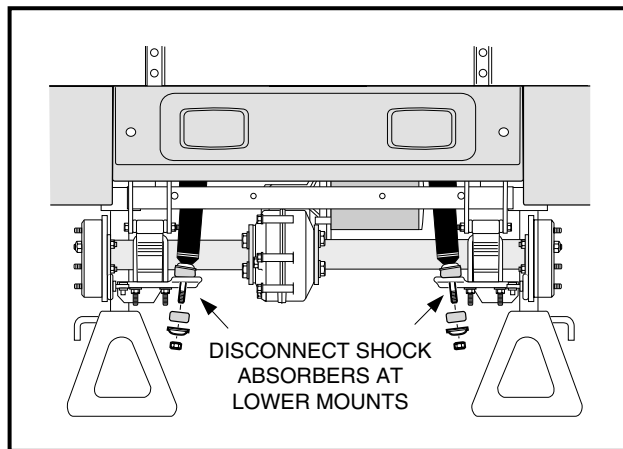
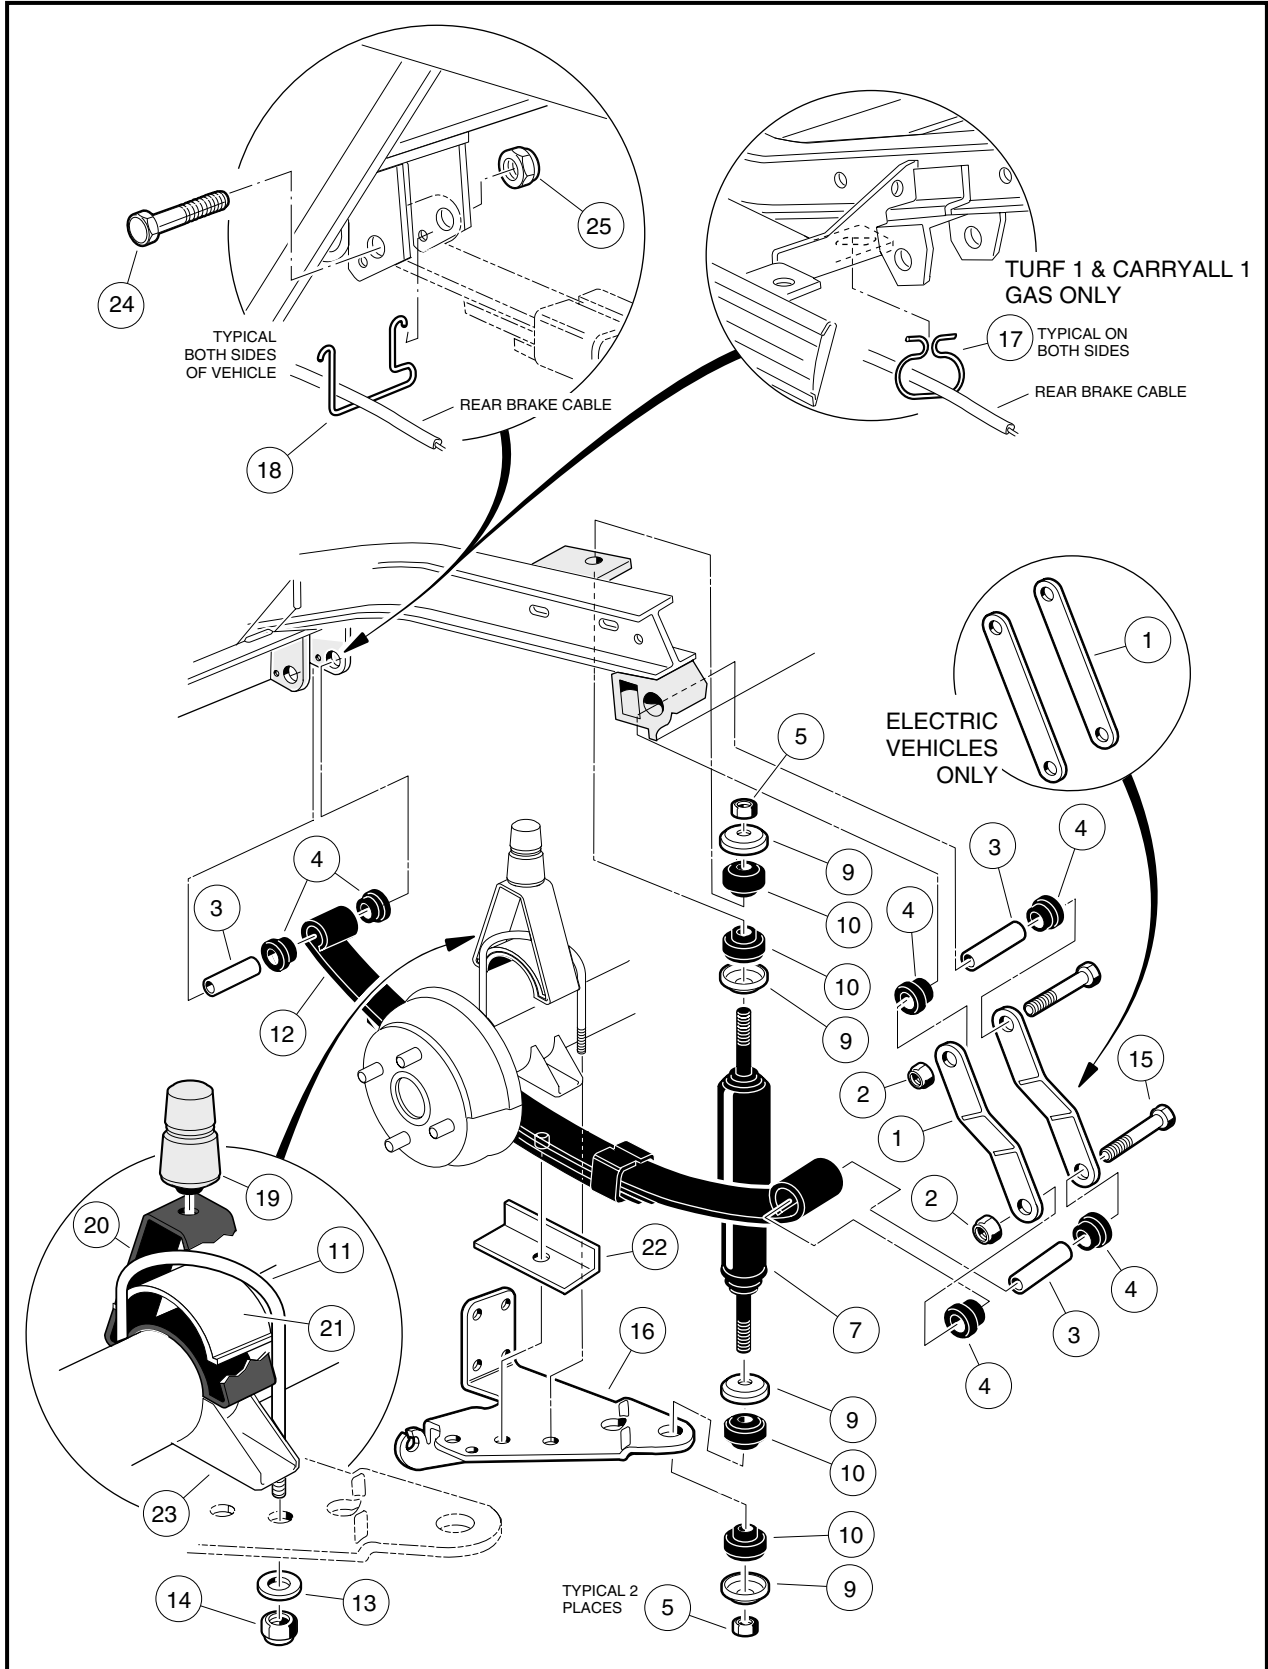
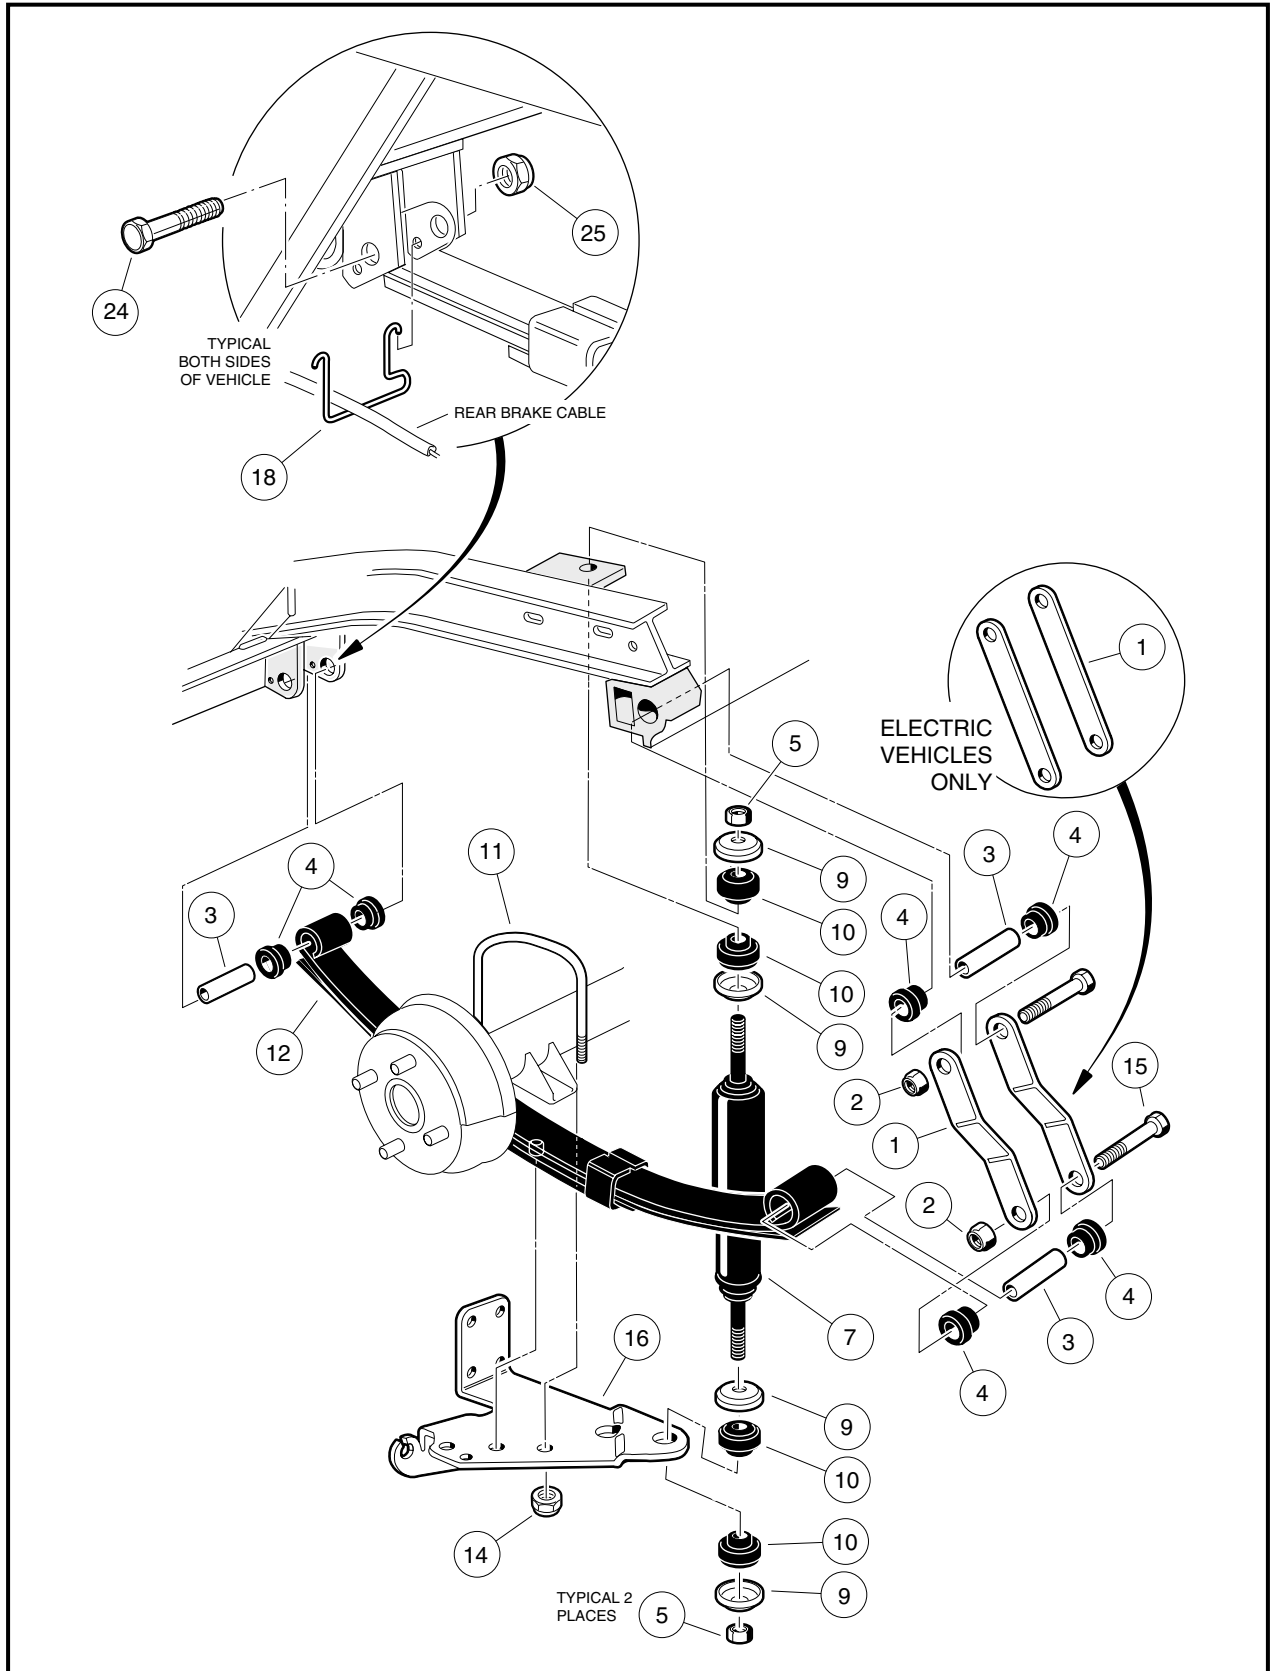

Figure 9-1 Remove Shock Absorbers
Figure 9-3 Rear Suspension - Vehicles With Jounce Bumpers
Figure 9-4 Rear Suspension - Vehicles Without Jounce Bumpers
1. Check shock absorbers (7) for fluid leakage around the lower housing of the shock absorber body. Replace leaking shock absorbers (**Figure 9-3, Page 9-4 or Figure 9-4, Page 9-5**).
2. To remove a shock absorber (7), remove the nut (5), cup washer and rubber bushing (9 and 10) from the upper shock absorber stem (**Figure 9-3, Page 9-4 or Figure 9-4, Page 9-5**).
3. Remove lower mounting hardware (5, 9 and 10) on shock absorber lower mount (**Figure 9-3, Page 9-4 or Figure 9-4, Page 9-5**). See also **Figure 9-1, Page 9-2**.
4. Compress the shock absorber to remove it (**Figure 9-1, Page 9-2**).
2. On the upper shock absorber mount, tighten nut (5) until rubber bushing (10) expands to size of cup washer.
3. On the lower shock absorber mount, install mounting hardware. Tighten the nut (5) until the rubber bushing (10) expands to the same diameter as the cup washer (**Figure 9-1, Page 9-2**).
- THERE ARE TWO DIFFERENT TYPES OF SUSPENSION SYSTEMS COMMON TO CLUB CAR VEHICLES. THE RECOMMENDED METHOD OF DETERMINING THE SUSPENSION TYPE IS TO LOOK FOR THE PRESENCE OF JOUNCE BUMPERS (20) (**FIGURE 9-3, PAGE 9-4**). VEHICLES WITHOUT JOUNCE BUMPERS UTILIZE A PAIR OF NEWLY DESIGNED LEAF SPRINGS.
5. Remove lower nut (5), cup washer (9) and rubber bushing (10) from shock absorber (7) (**Figure 9-3, Page 9-4** or **Figure 9-4, Page 9-5**).
- 6.1. Remove the locknuts (14) and flat washers (13) (if present) attaching the U-bolt (11) to the shock mount bracket (16). Remove jounce bumper mount (20) and spacer (21) (**Figure 9-3, Page 9-4**).
- 6.2. Allow shock mount bracket (16) to rotate downward and remove spring retainer (22). Do not disconnect brake cable from bracket (**Figure 9-3, Page 9-4**).
- 7.1. Remove the locknuts (14) attaching the U-bolt (11) to the shock mount bracket (16). Do not disconnect brake cable from bracket (**Figure 9-4, Page 9-5**).
8. Raise axle with floor jack until axle saddle (23) is 1 inch (2.5 cm) above spring (**Figure 9-3, Page 9-4**).
9. Remove bolt (15) and locknut (2) attaching the leaf spring (12) to the rear shackle (1) (**Figure 9-3, Page 9-4 or Figure 9-4, Page 9-5**).
10. Allow rear of leaf spring (12) to rest on the ground and remove the bolt (24) and locknut (25) attaching the front of the spring to the vehicle frame (**Figure 9-3, Page 9-4 or Figure 9-4, Page 9-5**). Remove spring from vehicle.
11. Inspect the rubber bushings (4) and steel sleeves (3) in the spring eyes and replace them if they are worn or damaged (**Figure 9-3, Page 9-4 or Figure 9-4, Page 9-5**).
1. Install rubber bushings (4) and steel sleeves (3) into leaf spring eyes if bushings were removed (**Figure 9-3, Page 9-4 or Figure 9-4, Page 9-5**).
2. Place front of leaf spring (12) into vehicle frame and insert bolt (24) through frame and leaf spring eye. Install locknut (25) and tighten to 15 ft-lb (20.3 N·m) (**Figure 9-3, Page 9-4 or Figure 9-4, Page 9-5**).
3. Align the other end of leaf spring with the holes in the spring shackles (1). Insert bolt (15) through leaf spring eye and shackles. Install locknut (2) and tighten to 15 ft-lb (20.3 N·m). Lower transaxle onto leaf spring (12) (**Figure 9-3, Page 9-4 or Figure 9-4, Page 9-5**).
- WHEN PLACING TRANSAXLE ON SPRING, BE SURE TO POSITION LOCATING BOLT ON THE SPRING IN THE LOCATING HOLE IN THE TRANSAXLE SADDLE (23) (**FIGURE 9-3, PAGE 9-4**).
- 4.1. Install spring retainer (22) and shock mount bracket (16) onto locating bolt at bottom center of leaf-spring (**Figure 9-3, Page 9-4**). **See preceding NOTE.**
- 4.2. Position jounce bumper mount (20) with spacer (21) onto axle tube. Install U-bolt (11), flat washers (13) (if present) and locknuts (14). Tighten U-bolt to 25 ft-lb (34 N·m) (**Figure 9-3, Page 9-4**).
- 5.1. Install shock mount bracket (16) onto locating bolt at bottom center of leaf-spring (**Figure 9-4, Page 9-5**). **See preceding NOTE.**
- 5.2. Install U-bolt (11) and locknuts (14). Tighten U-bolt to 25 ft-lb (34 N·m) (**Figure 9-4, Page 9-5**).
1. Grip jounce bumper (19) and pull from bumper mount (20) (**Figure 9-3, Page 9-4**).
1. Insert jounce bumper (19) into bumper mount (20) (**Figure 9-3, Page 9-4**). Make sure the entire circumference of bumper is seated firmly in mounting hole.